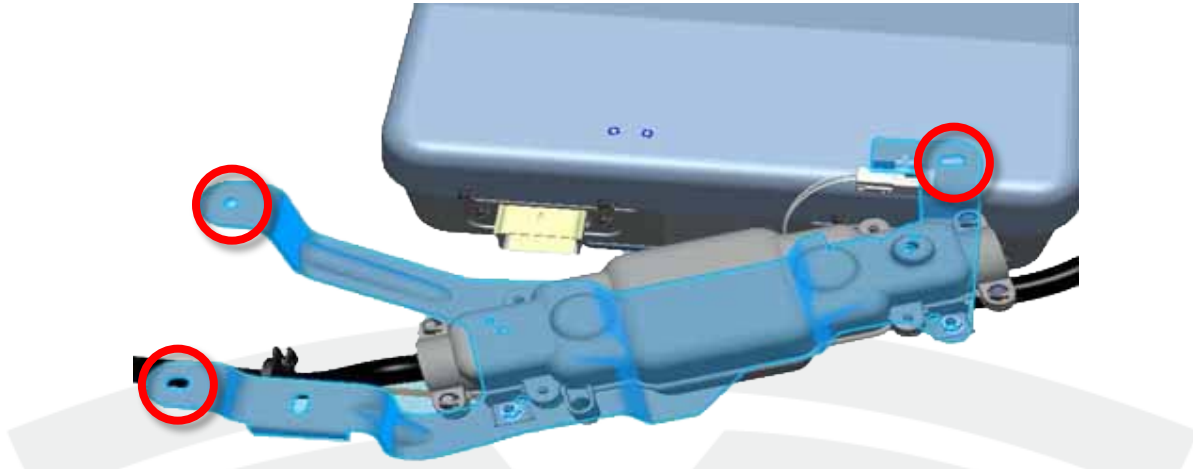

Figure 3
3. Remove the 3 bolts that secure the HVIL fuse bracket (Figure 3).
10. Reinstall the 3 bolts that secure the HVIL fuse bracket (torque 9 Nm) (Figure 3).